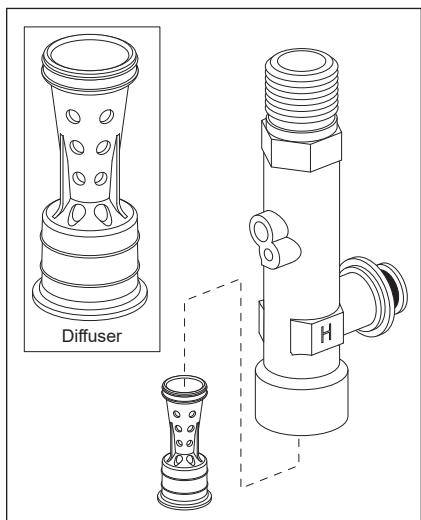

Figure 128 - Installing Diffuser to Outlet T-Nipple.
- 19** Locate the two (2) large O-rings provided in kit. Apply lubricant and install O-rings to grooves located on both the inlet and outlet t-nipples.
- 20** Locate the diffuser provided in the kit and insert it upright into the bottom orifice of the outlet t-nipple. Verify the diffuser seats snuggly and does not travel (see Figure 128).